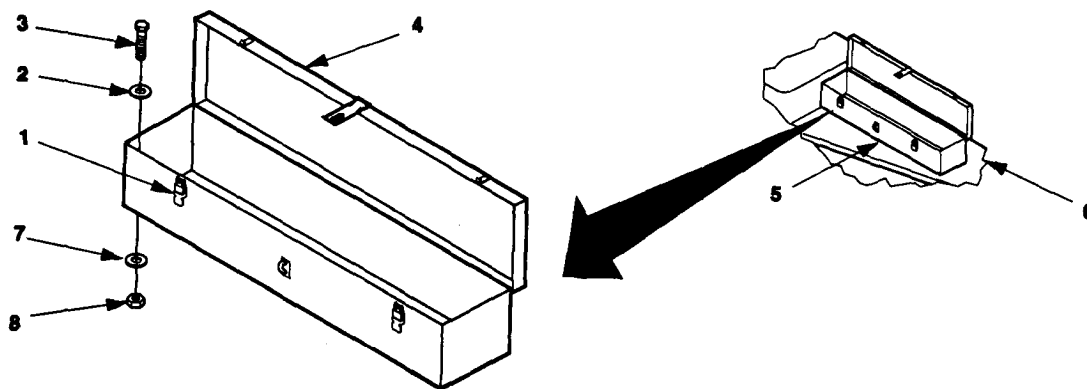

Figure 4-18. Accessory Box Maintenance,
- 1. Release clamping catches (1, figure 4-18) and open accessory box cover (4).
- 2. Remove any stored accessories from accessory box (5).